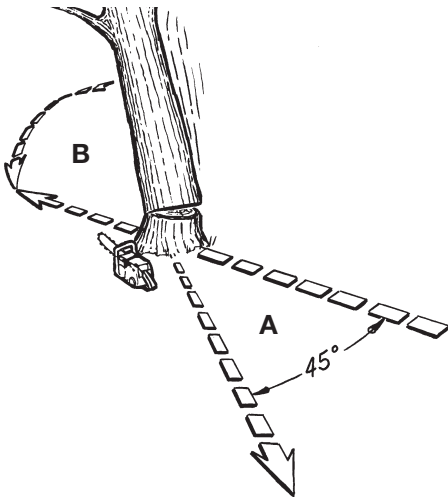

Fig. 12
WARNING: A retreat path (A) should be planned and cleared as necessary before cuts are started. The retreat path should extend back and diagonally to the rear of the expected line of fall, as illustrated in Fig. 12.
WARNING: As the felling cut gets close to the hinge, the tree should begin to fall. When tree begins to fall, stop engine, put chain saw down, and leave area along retreat path (Fig. 12).